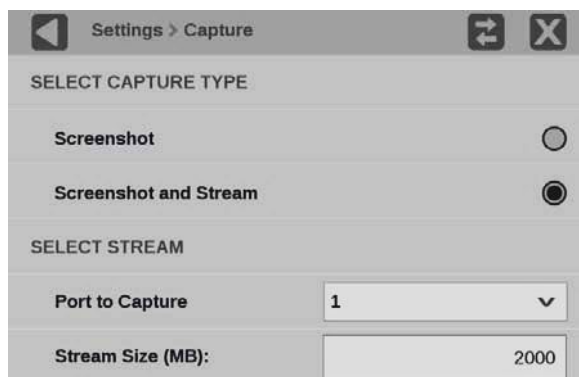

Figure 95: Select Screenshot and Stream
4. Select **Screenshot and Stream** under SELECT CAPTURE TYPE. (See Figure 95.)